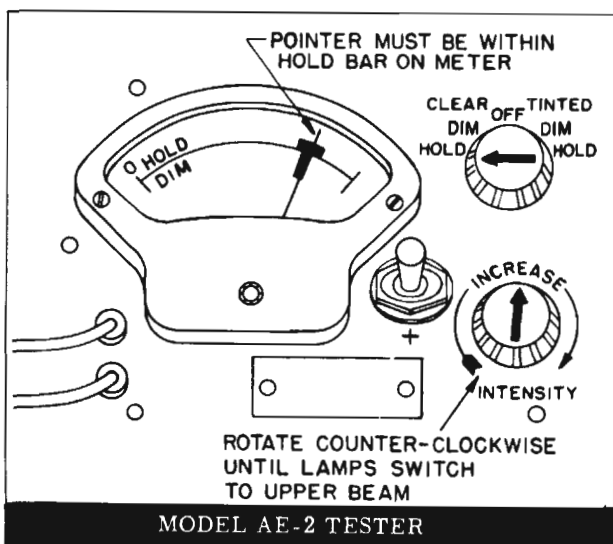

Fig. 13-38 Hold Sensitivity Test
10. Slowly turn Intensity Rheostat counterclockwise just to point where headlamps switch to upper beam. The meter pointer should now read in the Hold Sensitivity Adjustment Bar on the meter scale. (Fig. 13-38)
4. Adjust tester Intensity Rheostat until meter pointer is at center of Hold Sensitivity bar. (Fig. 13-38)